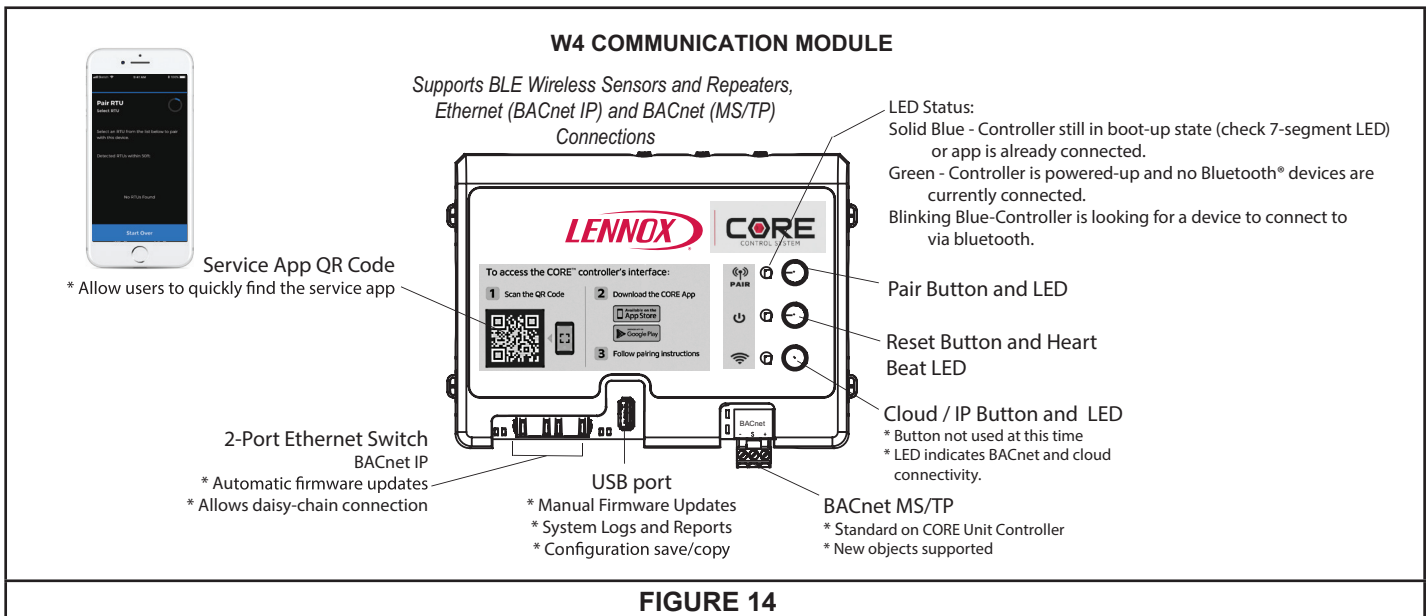

FIGURE 14
- 2 - Press and hold the pair button for five seconds. See FIGURE 14.